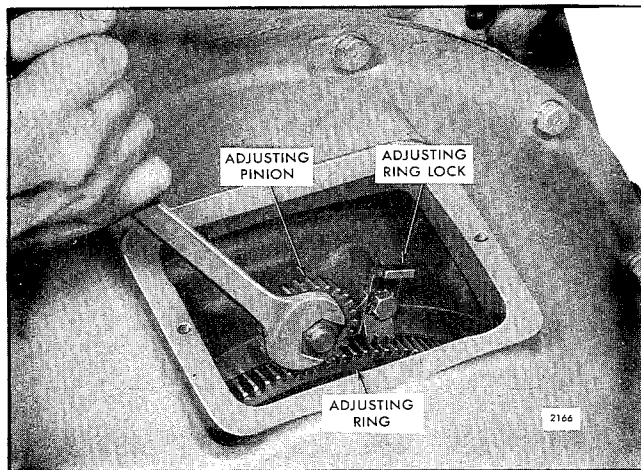

Fig. 13 - Power Take-Off Assembly Showing Method of Adjusting 18 Inch Diameter Clutch
2. Loosen the lock bolt and pull the lock out of mesh with the adjusting ring; then, tighten the lock bolt to hold the lock out of the adjusting ring. While holding the clutch drive shaft to prevent the clutch from turning, turn the adjustment pinion clockwise to tighten the clutch as shown in Fig. 13.